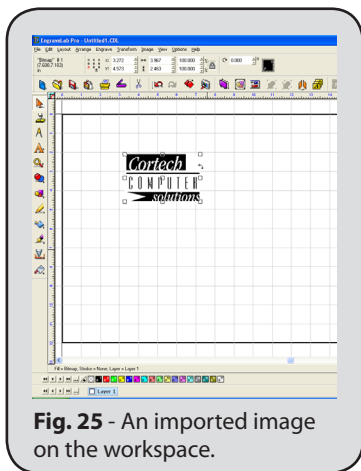

Fig. 25 - An imported image on the workspace.
4. Click on the workspace to place the imported file (Fig. 25).